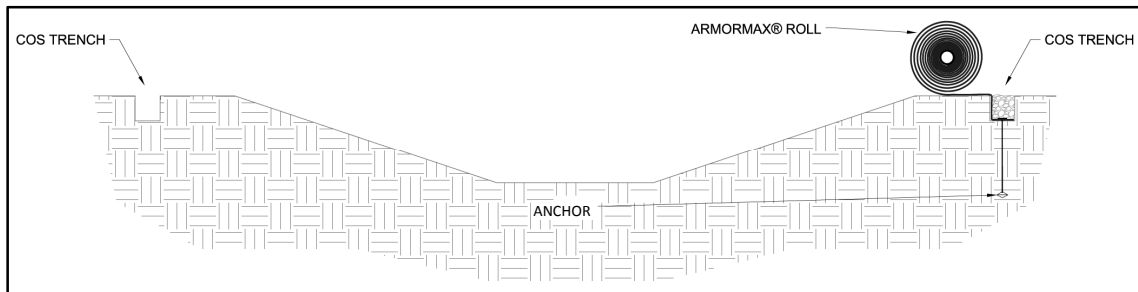

Figure 9: Crest of Slope (COS) Trench Placement
9. Backfill and compact the COS trench in the location of the first ARMORMAX panel only (Figure 9).